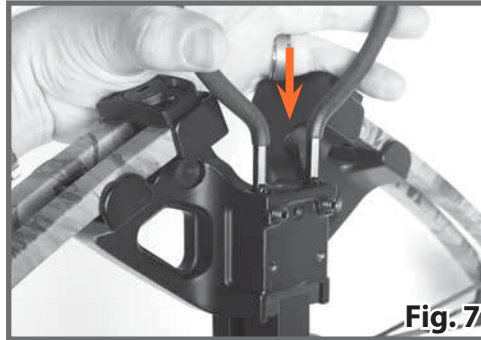

Fig. 7
1. Insert the stirrup onto the riser by aligning the retention grooves to the set screw holes using the 2 screws using the hex wrench (Fig. 7 & 8)